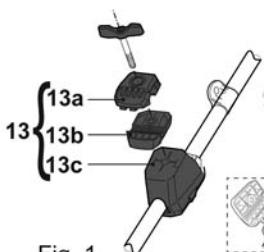

Fig. 1
- > Remove the cover (13a) and the plate (13b) from the lower support (13c) (Fig.1).